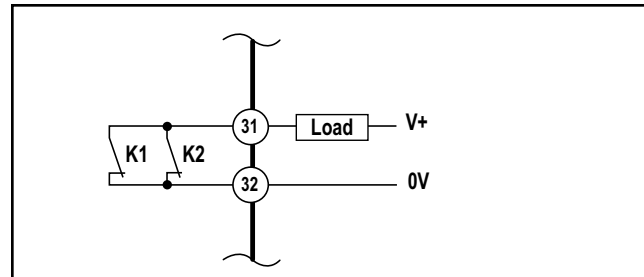

Figure 3-11a. AUX output hookup – MMD-TA-11B
**Model MMD-TA-11B:** The non-safety-related output on this model is a 24V ac/dc, 250 mA normally-closed relay contact. See Output Specifications on page 9. See Figure 3-11a.